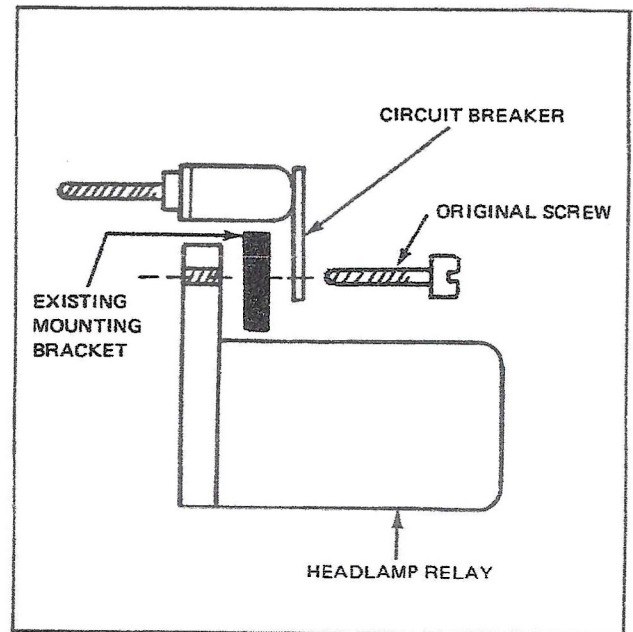

Fig. 17 - Article No. 116
48. Place circuit breaker in position at forward screw hole with terminals facing rearward and install circuit breaker and headlamp relay to mounting bracket original screw. (See Fig. 17)